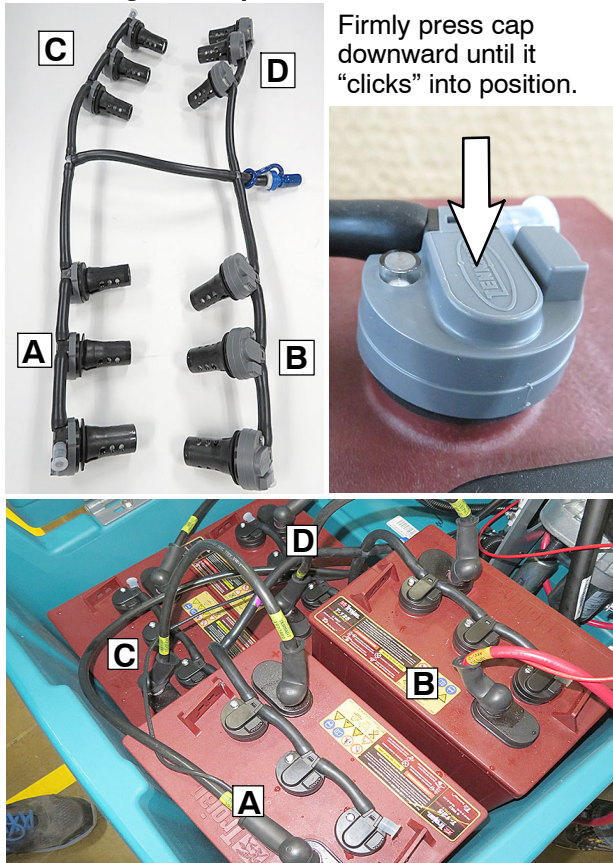

Fig. 4
6. Install the new battery watering distribution assembly on the batteries as described below (Figure 4).